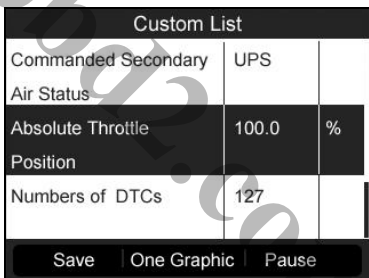

Figure 6.12
- 4) Press the **Y** button to view selected PIDs on screen. (Figure 6.12)